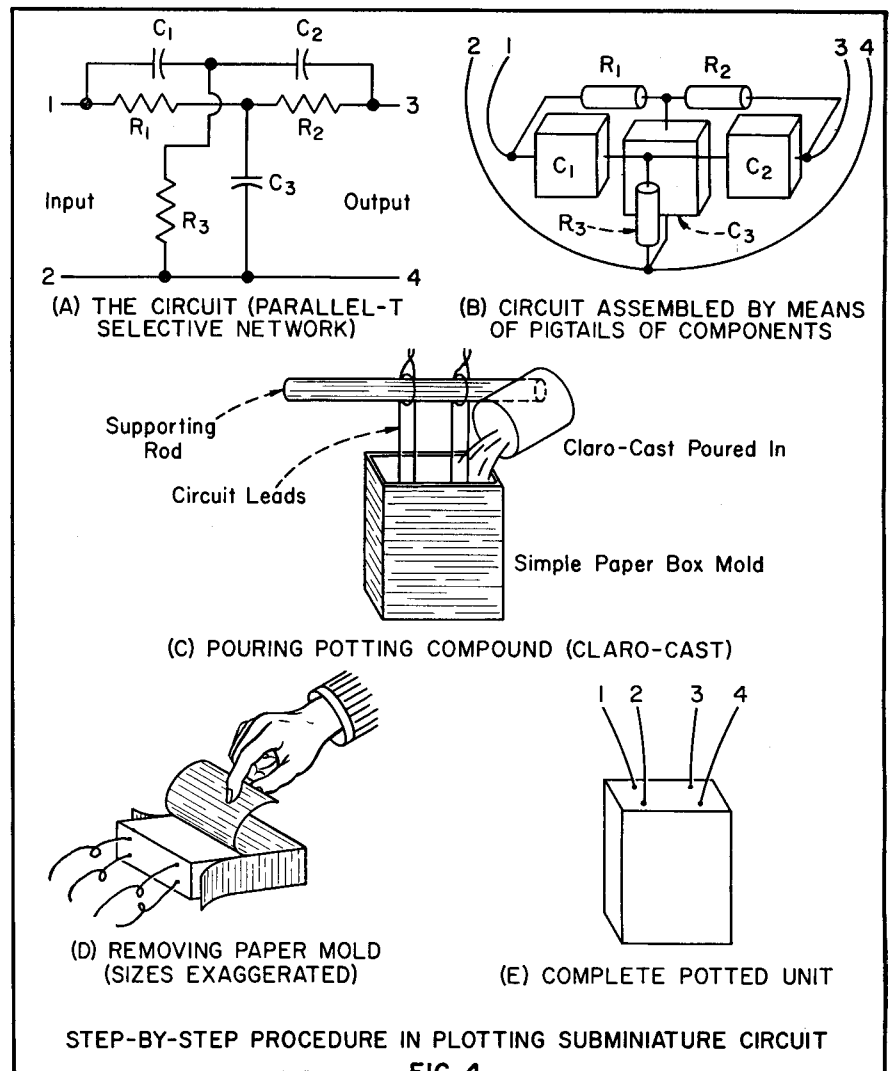

FIG. 4
Figure 4 illustrates typical steps in assembling a miniature electronic circuit and imbedding it in a block of polyester resin. A parallel-T selective R-C network has been selected for illustration.
Figure 4(A) shows the circuit, and 4(B) the components assembled by the direct connections together of their pigtail leads. The assembly then is hung in a mold made of a small paper box. The inside of this box must be lightly coated with furniture wax or soap. The hanging is shown in Figure 4(C).